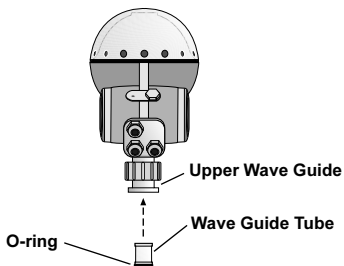

Figure 3. Inserting wave guide tube
- B2. Insert the wave guide tube into the upper wave guide. Make sure the o-ring at the lower end of the wave guide tube is in place. See *Figure 3. Inserting wave guide tube*
C7. Insert the wave guide tube into the upper wave guide. Make sure the o-ring at the lower end of the wave guide tube is in place. See *Figure 3. Inserting wave guide tube*
G2. Insert the wave guide tube into the upper wave guide. Make sure the o-ring at the lower end of the wave guide tube is in place. See *Figure 3. Inserting wave guide tube.*